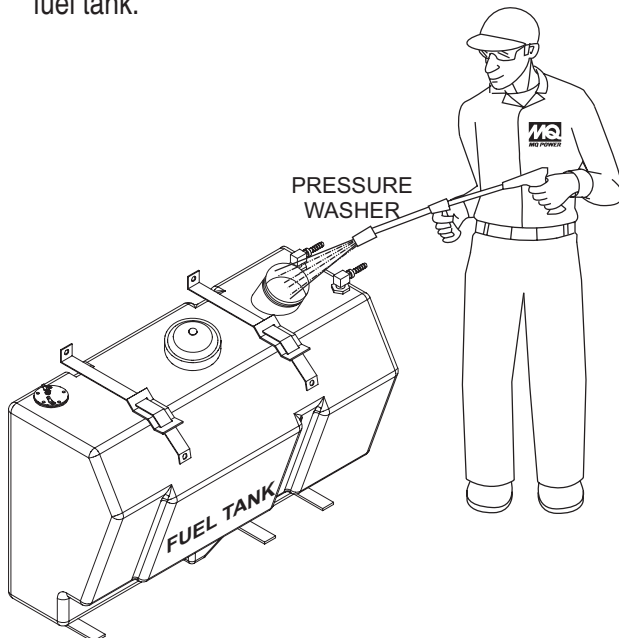

Figure 57. Cleaning Fuel Tank
3. Using a pressure washer (Figure 57), wash out any deposits or debris that have accumulated inside the fuel tank.